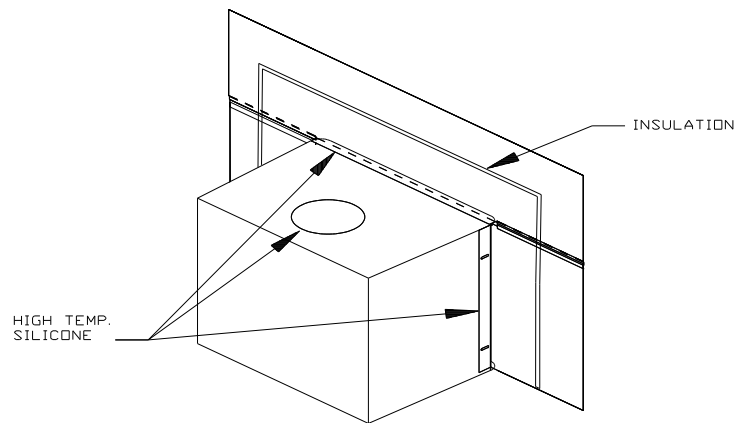

FIGURE 4
- Using insulation provided, peel and stick to back of panels overlapping fireplace dimensions by 1" on each side and top. (See Figure 4.)
- Next using high heat silicone or furnace cement run heavy bead of caulking around where panels meet the stove. (See Figure 4.)